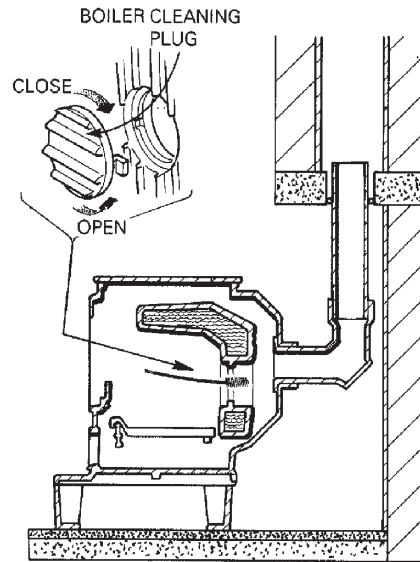

Fig. 7
Access to rear boiler flueway with flexible flue brush is made through the firedoor opening and rear boiler access hole. Fig. 7.
- c. Replace boiler plug by inserting plug so that the locking lugs on the plug pass through the corresponding slots in boiler back. Figs. 7 and 9.